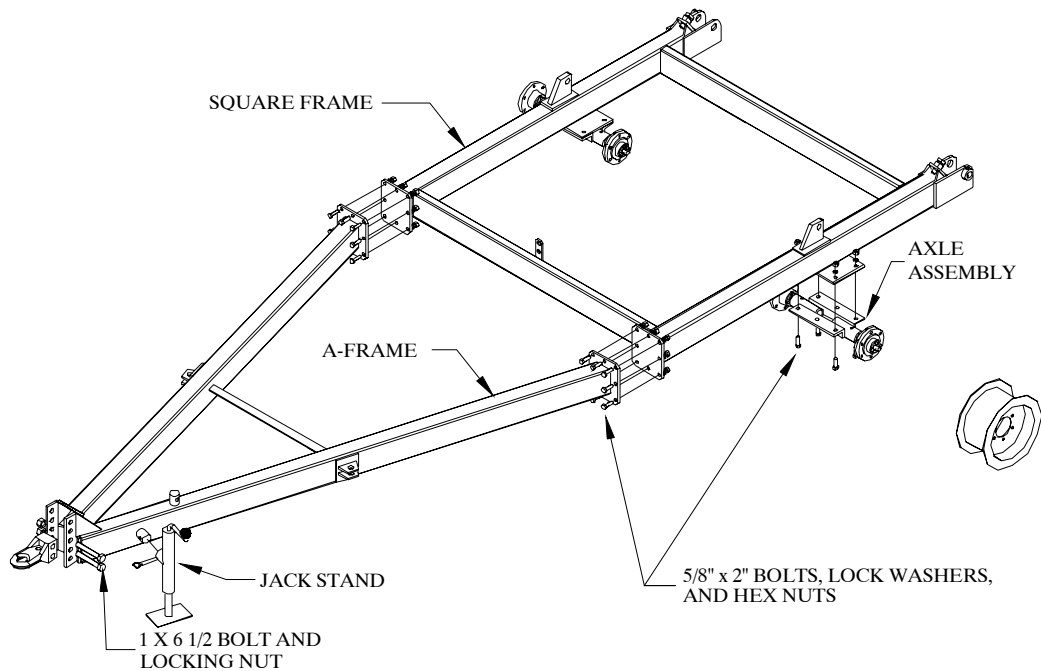

Figure 1
1. Bolt the square frame to the A-frame. Refer to Figure 1. Use sixteen 5/8" x 2" bolts, lock washers, and hex nuts.